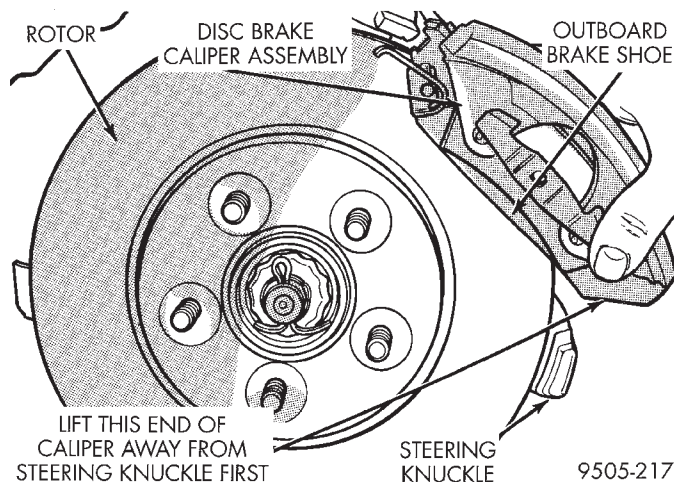

Fig. 21 Disc Brake Caliper Assembly Installation
(10) Install braking disc back on hub and bearing assembly.
(11) Install disc brake caliper assembly on steering knuckle. Caliper is installed by first sliding top of caliper under top abutment on steering knuckle. Then installing bottom of caliper against bottom abutment of steering knuckle (Fig. 21).